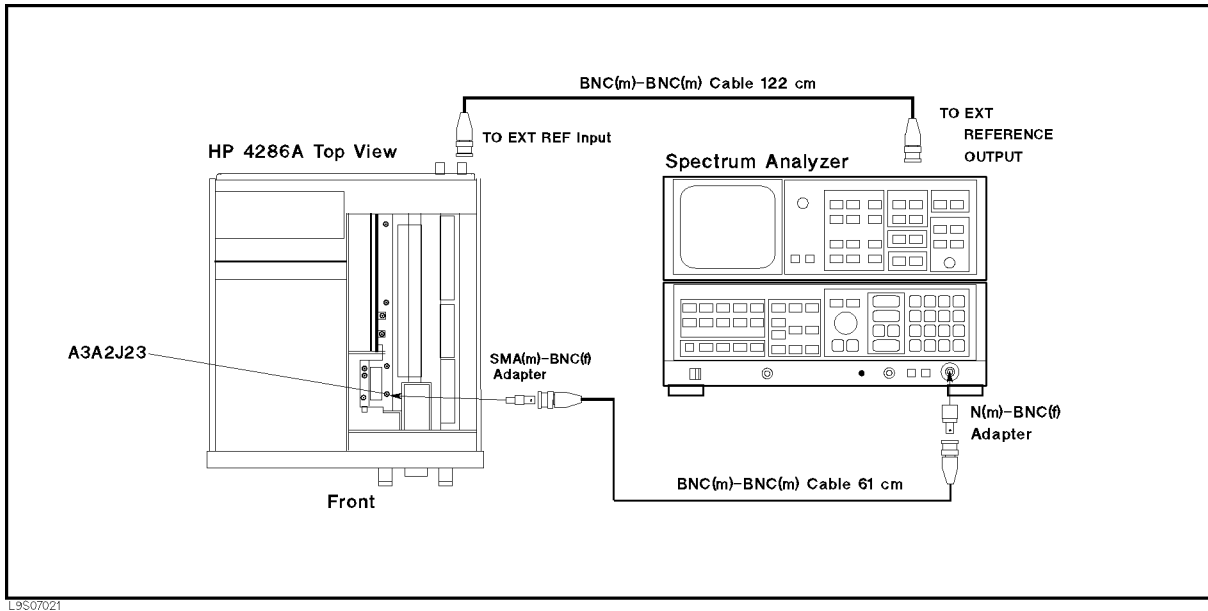

Figure 7-17. 2.05858 GHz Signal Test Setup
- a. Remove the "E" cable from A3A2J23. See Figure 7-17 for the location of A3A2J23. Then connect the equipment as shown in Figure 7-17.